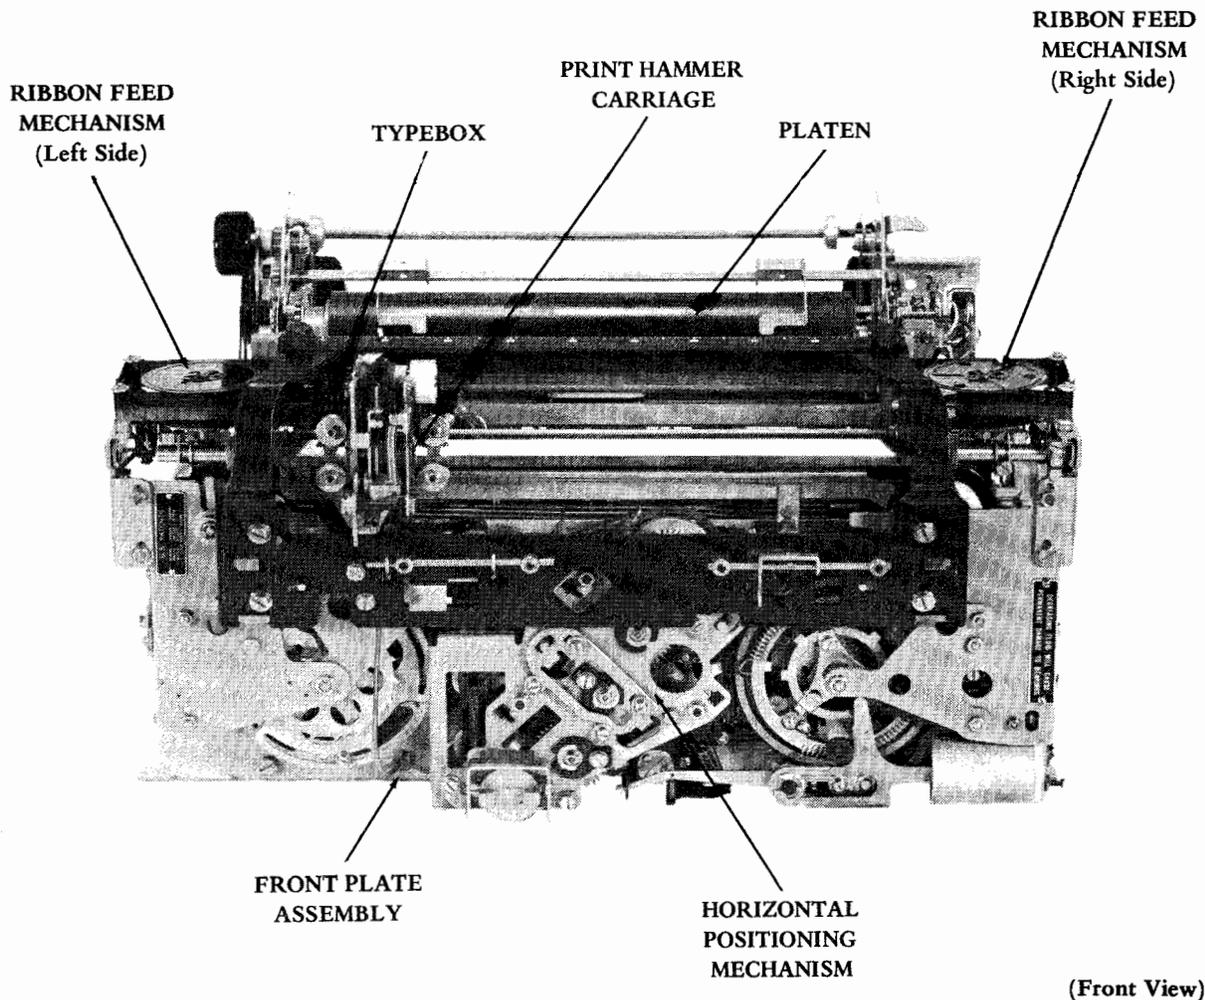

Figure 2 - 37 Typing Unit (Friction Feed)
2.08 To remove the ribbon feed mechanism (Figure 2) from the unit – left side, proceed as follows.
2.09 To replace the ribbon feed mechanism – left side (Figure 2), reverse the procedure used in removal. Check the following adjustments:
2.10 To remove the ribbon feed mechanism from the unit – right side (Figure 2), remove the retaining ring from the post on the drive arm. Remove one locknut and sleeve from the right blocking lever and connecting rod connection.
2.11 To replace the ribbon feed mechanism – right side (Figure 2), reverse the procedure used in removal. Check Ribbon Reversing Connecting Rod adjustment.
2.12 To remove the print hammer carriage from the unit (Figure 2), proceed as follows.
2.13 To replace the print hammer carriage (Figure 2), reverse the procedure used in removal. Check the following adjustments:
2.14 To remove the front plate assembly from the unit, proceed as follows (Figures 2, 4, 5, and 6).
2.15 To replace the front plate assembly (Figures 2, 4, 5, and 6), reverse the procedure used in removal. The carriage return lever must be in the slot in the carriage return link assembly. The horizontal positioning slide trip levers must be connected to their respective codebars.